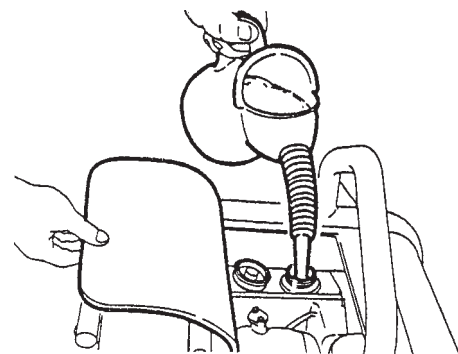

Figure 9. Refueling
2. Visually inspect to see if fuel level is low. If fuel is low, replenish with unleaded gasoline. (Figure 9).